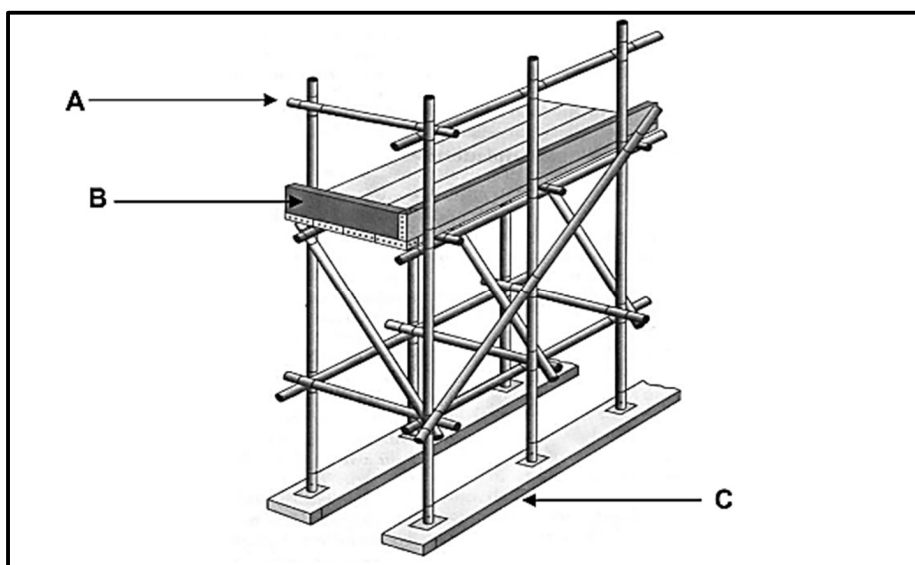

FIGURE 1.2
1.2 Answer the following questions regarding the scaffolding in FIGURE 1.2 below.